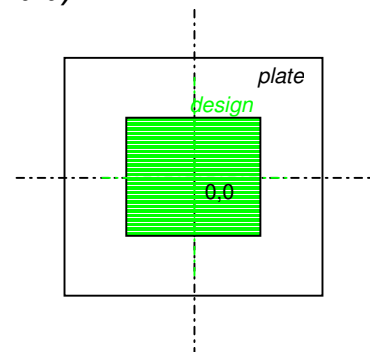

**Figure 28: Standard design positioning**
1. Make sure the cover lid (1) is closed (interlock lamp (12) off) and the compressed air is present. Click on the button **Load Substrate**. The stage moves to the loading position at the front of the machine, and the **Loading Status** window opens on the User PC.
2. Wait until all movement has finished. Open the cover lid. On the chuck, mount the alignment pins (masks: three, wafers: two) in the appropriate positions for the plate size to be used (see left part of Figure 28 on next page).
- Make sure the resist coated side of the substrate is turned up, and position it against the alignment pins. If the substrate bears alignment marks that should be used for exposure, **note that the coordinate system of the stage is oriented such that the x axis corresponds to a backward-forward movement, while the y-axis corresponds to a left-right movement when standing in front of the machine** (see Figure 29). If a vacuum region bigger than 2" is required, activate the required vacuum region extensions using the vacuum field adjustment screws (4) (see right part of Figure 28, and Figure 30). Switch on the vacuum with the vacuum turn knob (5). Check whether the plate is really held tight by trying to move it slightly sideways. If plate is not held, switch off the vacuum and clean plate backside and chuck before trying again. If problems persist, use a different substrate.
2. Wait until all movement has finished. Open the cover lid. On the chuck, mount the alignment pins (masks: three, wafers: two) in the appropriate positions for the plate size to be used (see left part of Figure 28).
4. Make sure the resist coated side of the substrate is turned up, and position it against the alignment pins. If the substrate bears alignment marks that should be used for exposure, **note that the coordinate system of the stage is oriented such that the x axis corresponds to a backward-forward movement, while the y-axis corresponds to a left-right movement when standing in front of the machine** (see Figure 29). If a vacuum region bigger than 2" is required, activate the required vacuum region extensions using the vacuum field adjustment screws (4) (see right part of Figure 28, and Figure 30). Switch on the vacuum with the vacuum turn knob (5). Check whether the plate is really held tight by trying to move it slightly sideways. If plate is not held, switch off the vacuum and clean plate backside and chuck before trying again. If problems persist, use a different substrate.